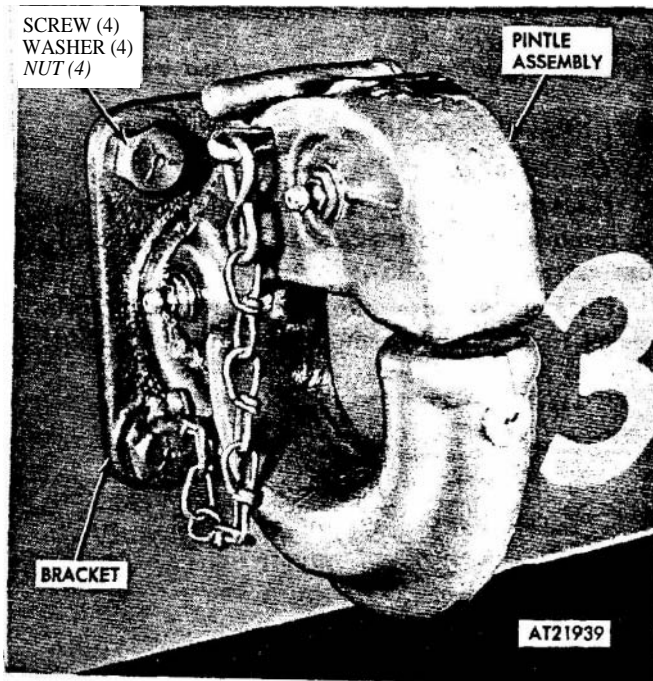

Figure 2-286. Pintle assembly (outside hull), removal and installation.
(2) Remove nuts and screws securing pintle bracket to carrier and remove bracket (fig 2-286).
(1) Clean dirt and grease from shaft hole in bracket and apply grease (GAA) to bracket bearing surface (fig 2-286).
(2) Align mounting holes of pintle bracket (without grease fitting) with mounting holes in carrier and insert four screws. Position bracket (with grease fitting) on threaded ends of bolts, with